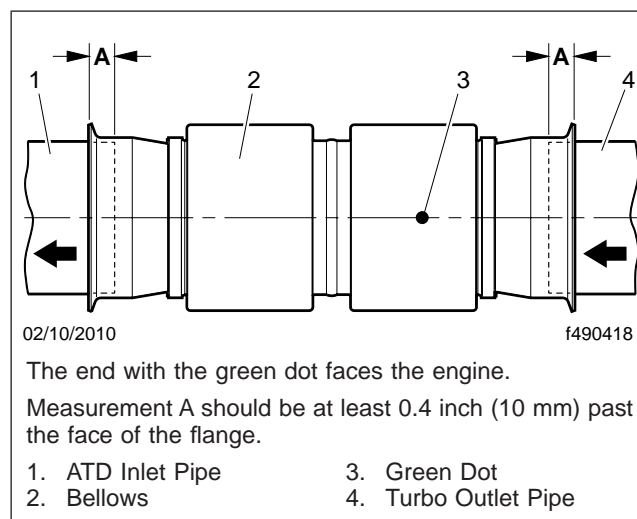

Fig. 6, EPA10 Exhaust Bellows
9. Slide the new bellows onto the ATD inlet pipe as far as it will go. See **Fig. 6**.
13. Using the yellow marks, center the bellows between the exhaust pipes. Verify that the pipe is inserted at least 7/16 inch (10 mm) past the face of the flange. See Fig. 6.